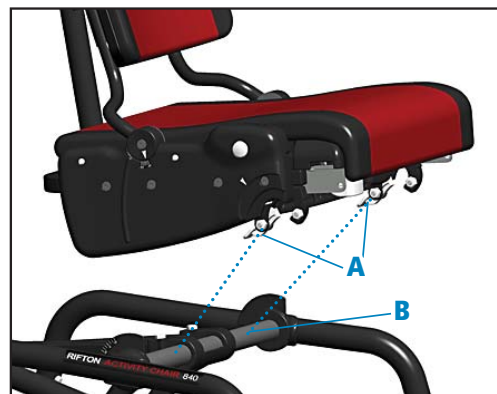

Figure 12b
With footboard angle adjuster disconnected, casters locked and arm supports removed, find white levers (A) located directly beneath the chair seat (see Figure 12b). Place one hand under front edge of seat and lift upwards while with other hand pulling one of the two levers towards front of chair. Still lifting front edge of seat, pull other lever towards front of chair to completely disengage bottom of seat from crossbar (B) beneath it.
To attach seat and backrest unit to base, slide seat hoop (C) under prongs (D) on base, centering backrest column between prongs. Then lower seat onto frontbar (B), pushing firmly downwards on front edge until it snaps into place (see Figures 12b and 12c).